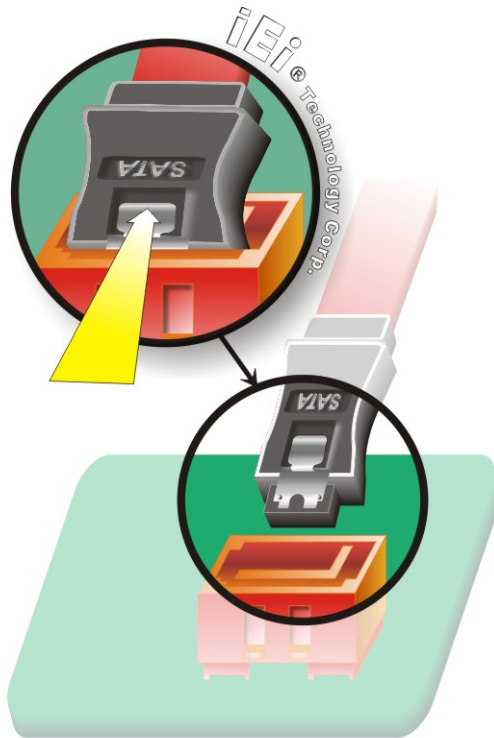

Figure 5-8: SATA Drive Cable Connection
Step 2: **Insert the cable connector.** Press the clip on the connector at the end of the SATA cable and insert the cable connector into the onboard SATA drive connector. See Figure 5-8.